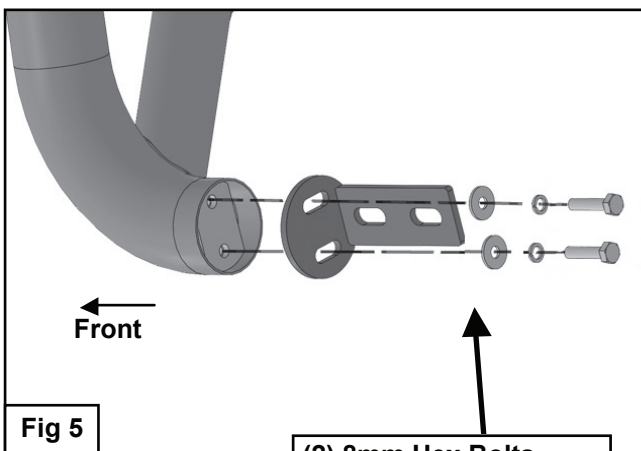

Fig 5
Place the Tyger Guard on a clean, stable work surface. Select the driver side Tyger Guard Tube Bracket. Bolt the Bracket to the end of the Tyger Guard with (2) 8mm Hex Bolts, (2) 8mm Lock Washers and (2) 8mm Flat Washers, (Fig 5). Snug but do not tighten hardware at this time. Repeat this Step to install passenger side Bracket.